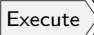

Figure 14: Typical examples of the **Holder Correction** windows for a) Manual measuring modes (including Manual Anisotropy Mode), b) 1-Axis Rotator, c) 3D Rotator.
- Go to:    to launch the **Holder Correction** window (Figure 14).